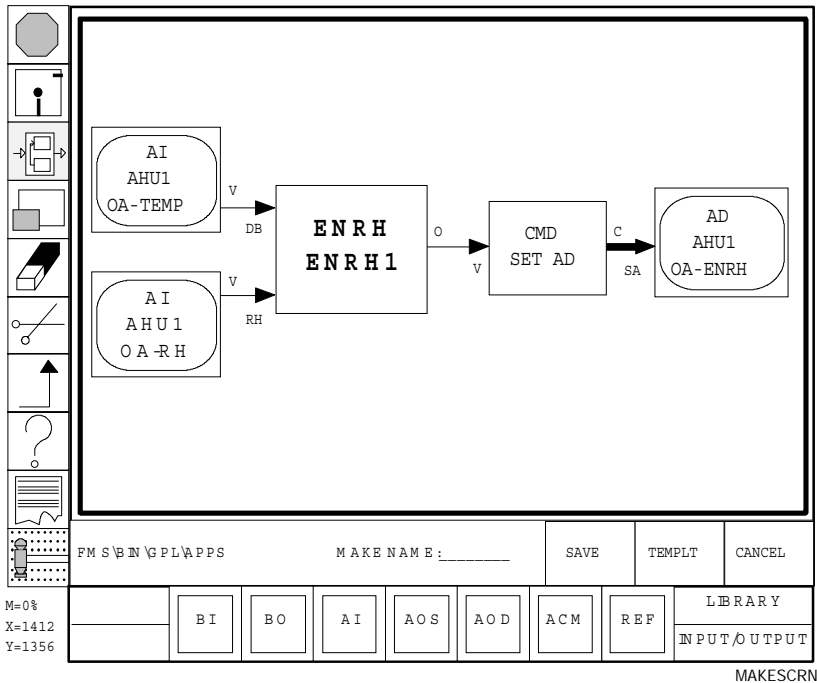

Figure 17: Compound Make Screen
5. Click left. The Compound Make screen displays (Figure 17).